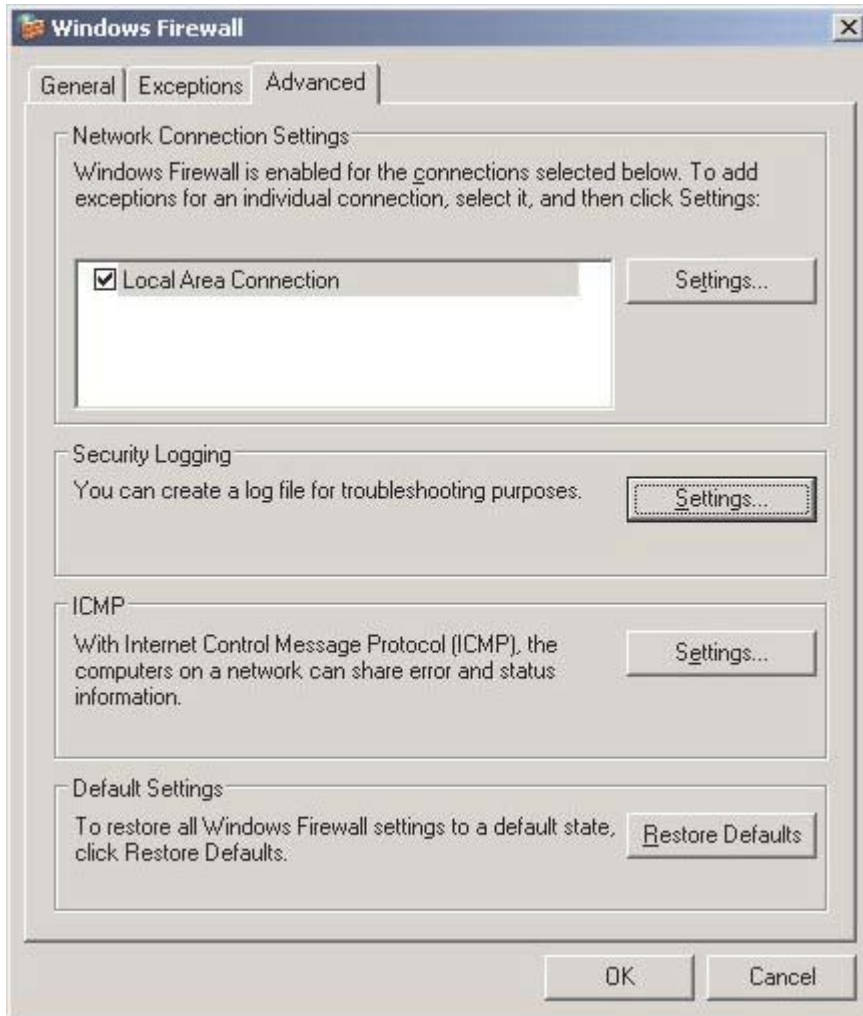

Figure 4. Windows Firewall Advanced tab
7. To restore the default settings of the firewall, go to **Advanced Tab** on the **Windows Firewall** dialog and click the **Restore Defaults** button (see Figure 4 on page 27).